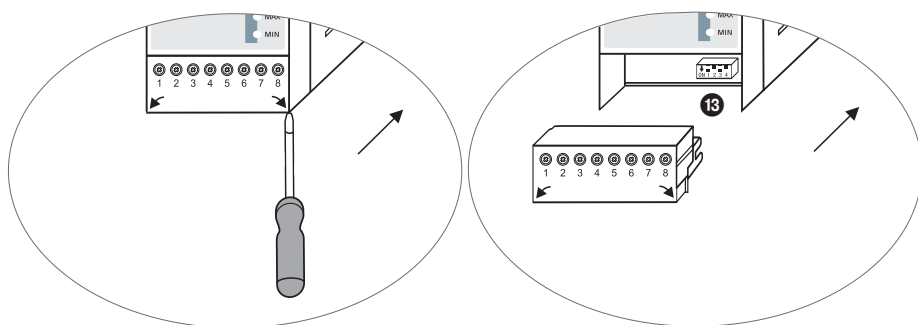

Fig. 3
■ **Detach the lower terminal strip. Fig. 3**